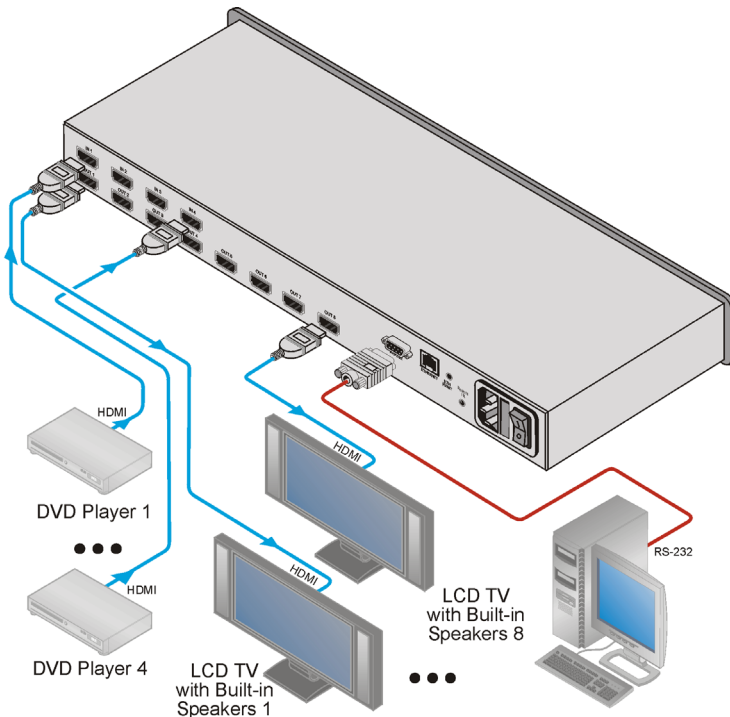

Figure 3: Connecting the VS-48H 4x8 HDMI Matrix Switcher
To connect1 the VS-48H 4x8 HDMI Matrix Switcher as illustrated in the example in Figure 3:
4. Connect the device to the mains electricity (not shown in Figure 3).